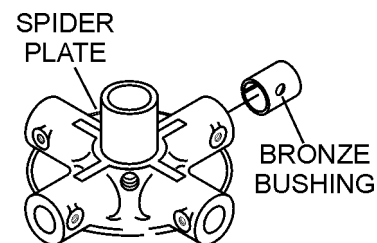

Figure 41. Bronze Bushings
4. Examine the bronze trowel arm bushing insert (Figure 41). Clean if necessary. Replace bushing if out-of-round or worn.